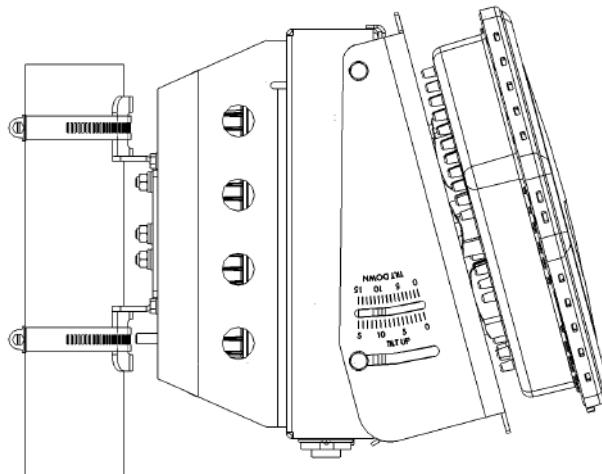

Figure 2-12: Pole Mounting the Wi²
- 3 Secure the Wi² unit to a pole as shown in Figure 2-12.